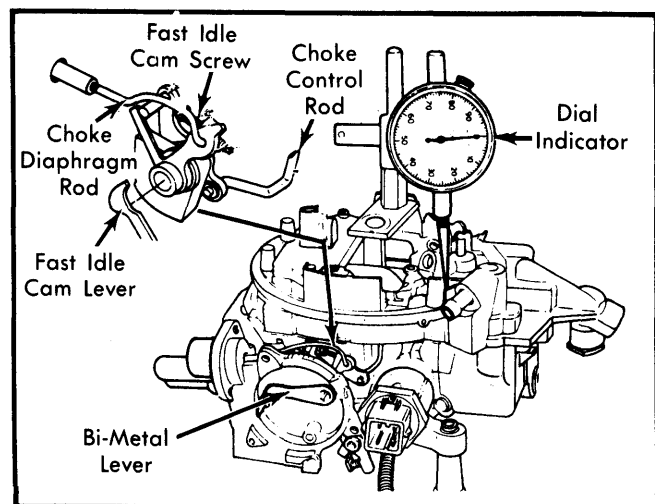

Fig. 12 Fast Idle Cam Adjustment (Alternate Procedure)
2) Place fast idle cam lever on specified step of fast idle cam. Rotate bi-metal lever until choke shaft lever and fast idle cam screw touch. Dial indicator should read specified setting. See Fig. 12.